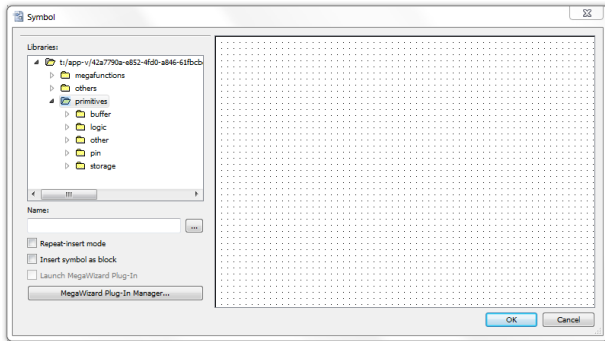

Figure 4.3.3: Add component menu
5. Right click on the schematic sheet and select Insert then Symbol or simply click on the symbol icon. The symbol window will be displayed (Figure 4.3.3).